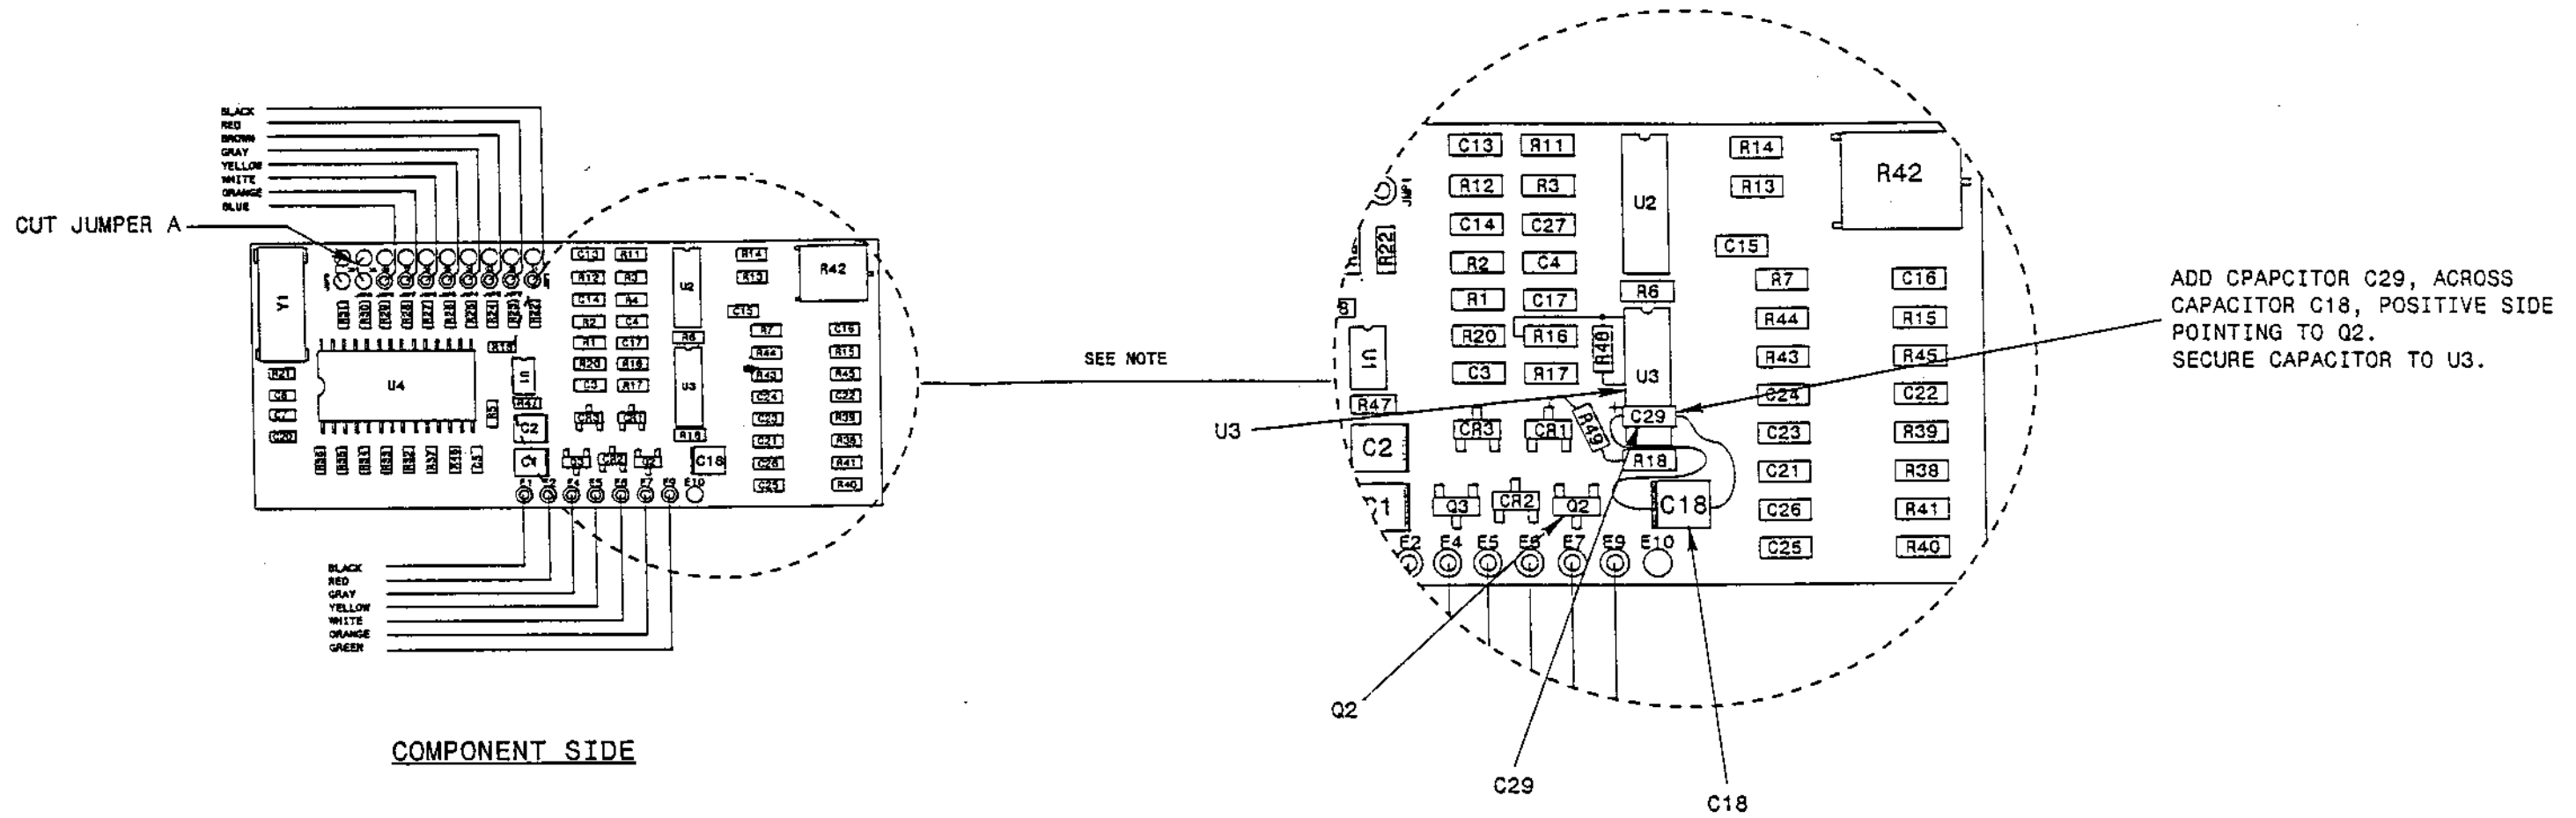

Figure 2
3. Add capacitor C29, P/N 096-01082-0046, across capacitor C18, positive side points to Q2, as shown in the enlarged detail of Figure 2.
4. Secure item 1 to U3 using Tac Pak adhesive, as shown.